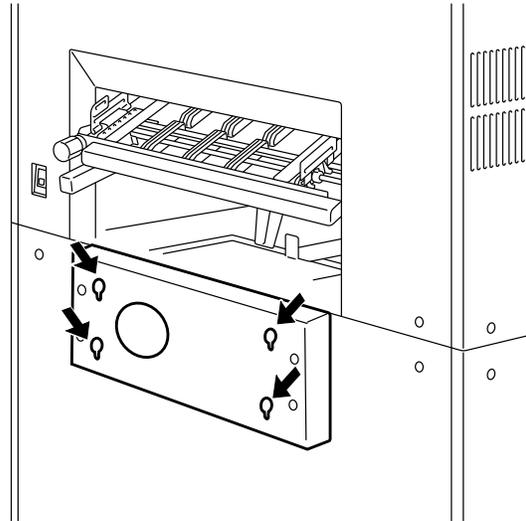

Figure 4-1
2. Mount the Suction Brake Unit onto the four mounting holes as shown in Figure 4-1.